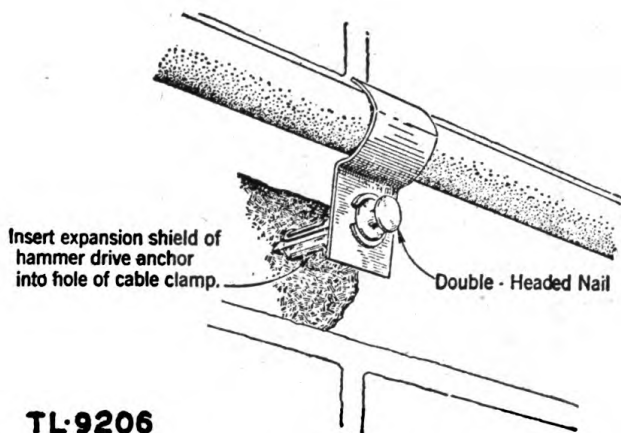

Figure 11. Cable clamp partially installed.
**b. CABLE CLAMPS.** (1) The cable clamp consists of a flat piece of metal which is bent to the shape of a "V" and has a hole for a mounting screw. (See fig. 11.)
(2) Cable clamps can be mounted on wood surfaces by means of wood-screws, double-headed nails, or, when used with drive rings, the pin of the drive ring. Cable clamps can be mounted on masonry surfaces by using one of the anchoring devices described in *a* above.
(3) Mount the anchor and cable clamp on brick walls as near the center of the brick as possible.
(4) On horizontal runs, space cable clamps 17 inches apart for cables 1 inch or less in diameter, and 26 inches apart for larger cables.
(5) On vertical runs, space cable clamps 24 inches apart for all sizes of cable.
(6) Whenever possible, locate cable clamps of horizontal runs so that the point of attachment is below the cable and on the inside of bends. On vertical runs cable clamps should be placed on the same side of the cable as the cable clamps used in the horizontal run. (See fig. 11.)